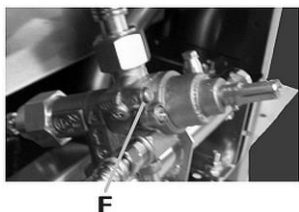

Fig. 9
1. For a lower flow rate, loosen the screw F (Fig. 9).